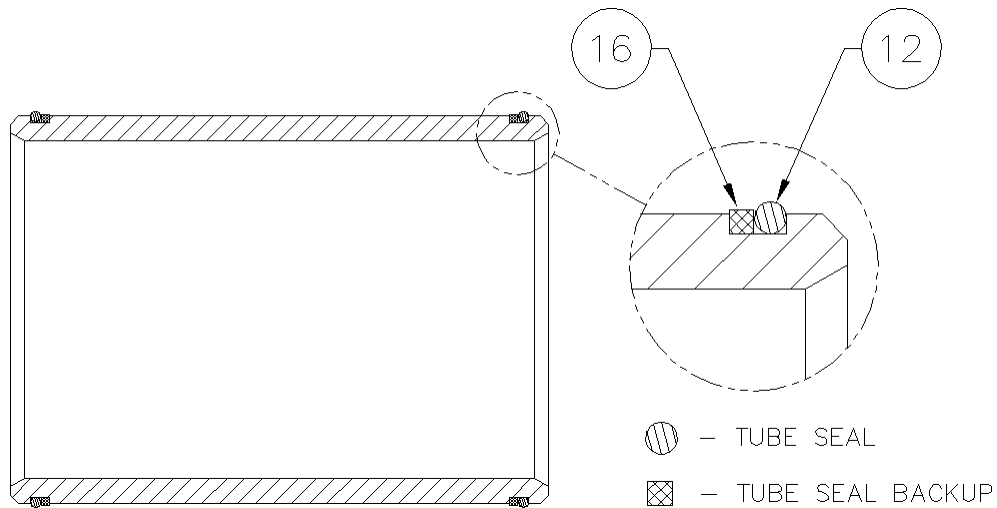
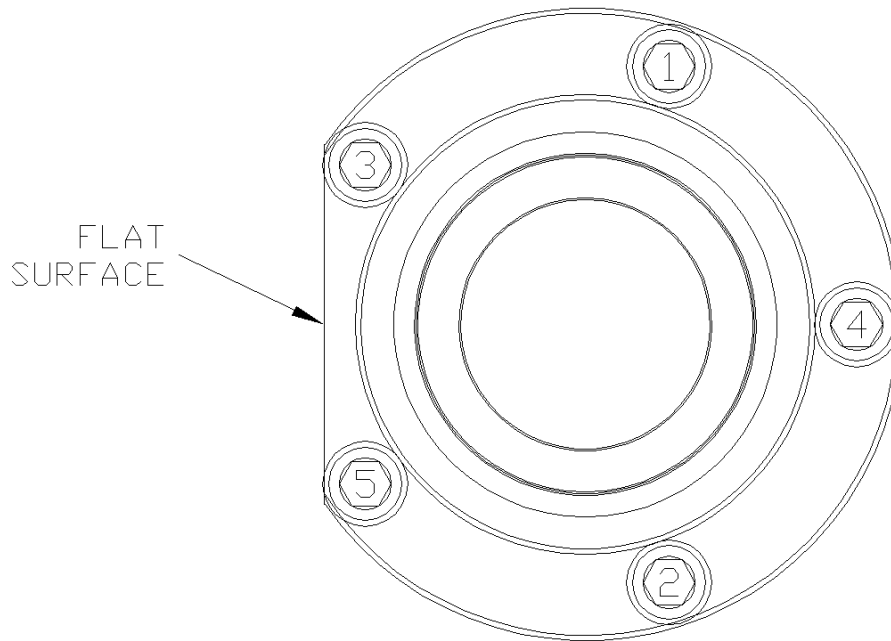
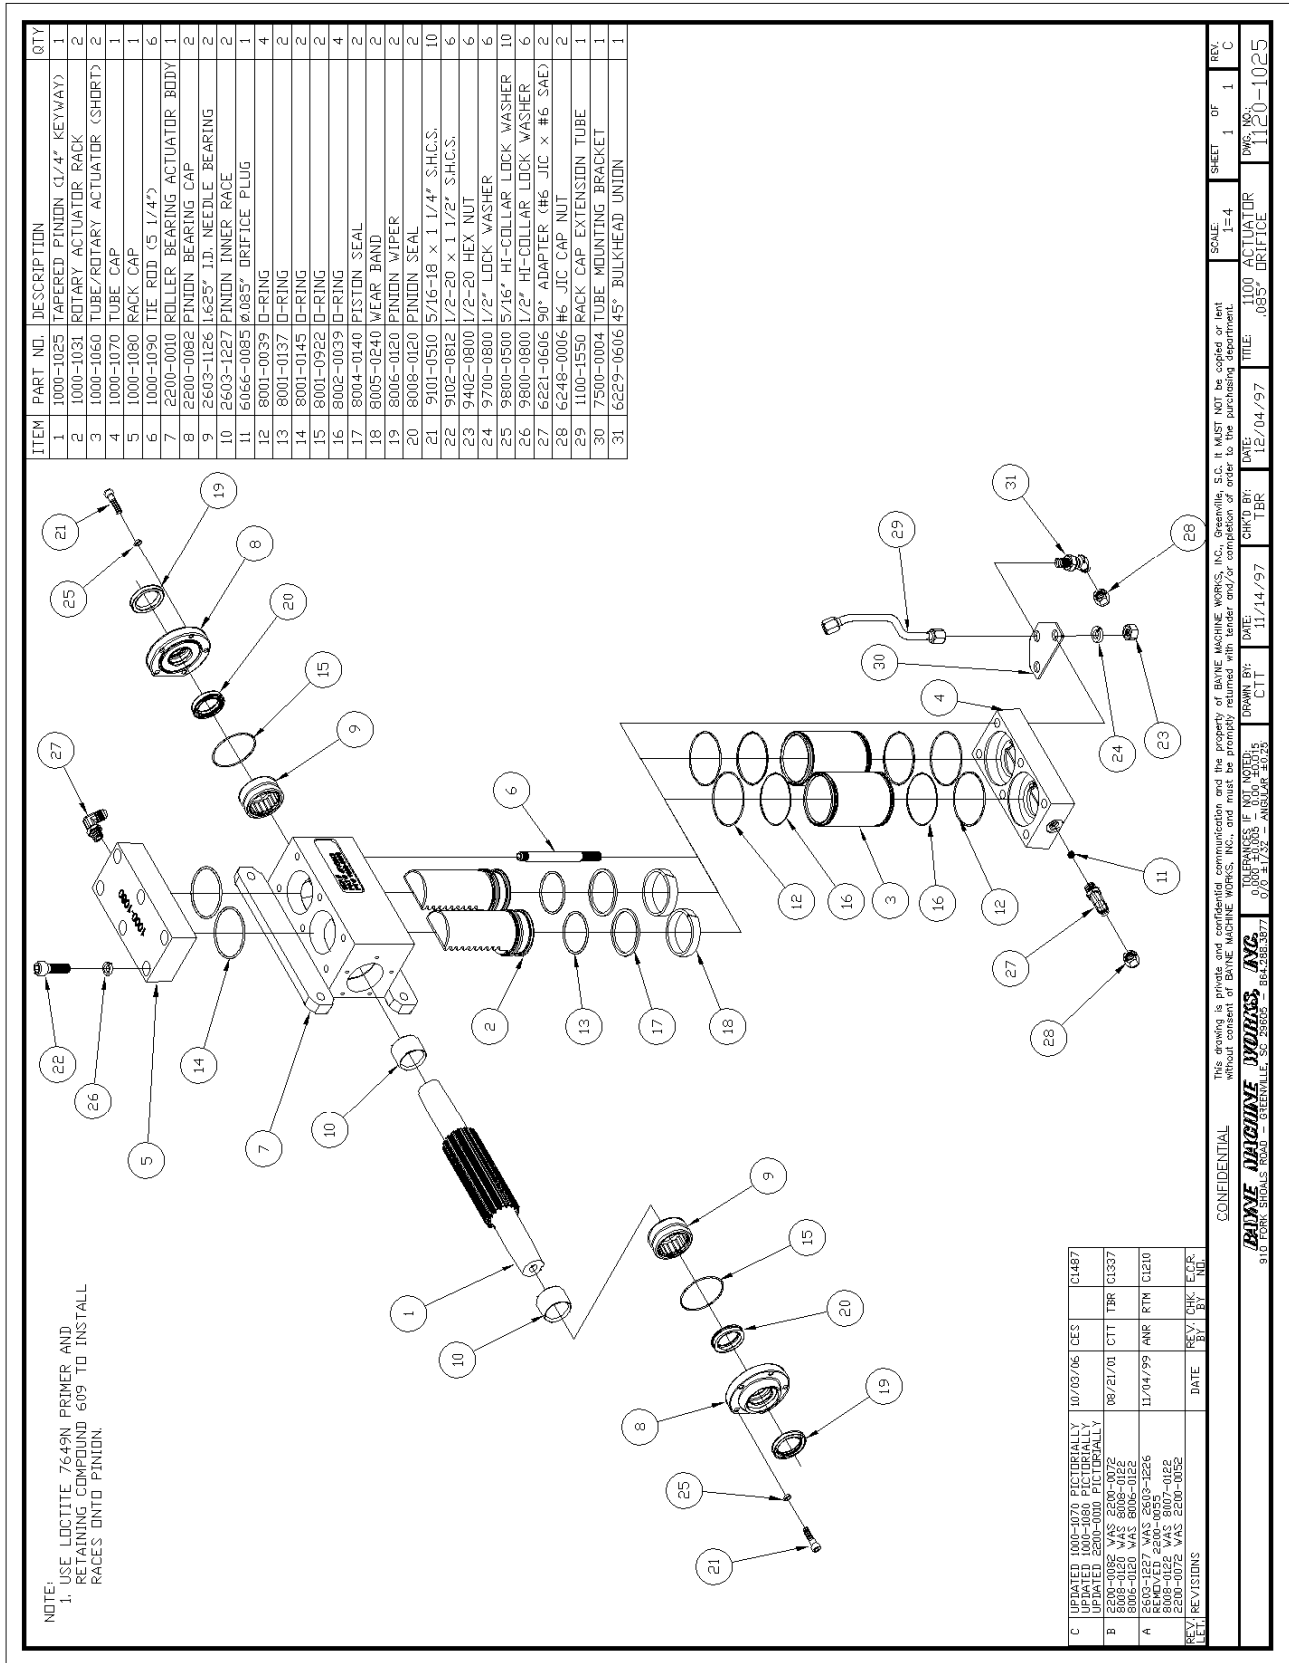

figure A-2
figure A-12
figure A-13
Before starting the assembly of the Rotary Actuator, refer to the exploded parts drawing and parts list (fig. A-13 found at the end of these instructions) to familiarize yourself with the individual components. Prepare a clean surface, in an area free of blowing dust and contaminants in which to assemble the Rotary Actuator. Be sure that all parts are thoroughly clean and dry before starting assembly.
2. Install the tube seal (12) (fig. A-2) and “square” tube seal backup (16) on each end of the actuator tubes (3) (fig. A-13). Be sure that the “square” tube seal backup ring is toward the inside of the tubes at both ends as shown. Press all rings firmly into the grooves. Repeat this procedure for the other tube.
- Coat the head portion of the racks (2) (fig. A-13) with STP Oil Treatment. Install the racks, head portion up with the teeth facing the flanges of the actuator body, into the dual set of bores in the body. Simultaneously slide the racks into the bores so that the racks mesh with the pinion in the same position. Rotate the pinion shaft to engage the racks into the pinion.
7. Coat one end of the actuator tubes (3) (fig. A-13) around the seal area with STP Oil Treatment as shown in figure A-7. Using a rubber mallet, drive the coated end of the tube onto the exposed rack until the tube end seats in the actuator body, making sure that the seals remain in place as the tube enters the counter-bore. Repeat this procedure for the other side.
8. Install the six tie rod studs (6) (fig. A-13) by screwing the short threaded end into the actuator body. Hand tighten only at this time (the torque needed will be applied later in the procedure).
9. Place the tube cap (4) (fig. A-13) on the table. Coat the sides of the two bores in the tube cap with STP Oil Treatment. Install the cap over the tubes and rod studs with the oil port positioned to the left as shown in figure A-13. Using a rubber mallet, tap the tube cap over the tubes until the tubes seat in the cap, making sure that the seals remain in place.
10. Place the tube mounting bracket (30) (fig. A-13) over the two end rod studs opposite the oil port in the tube cap as shown in figure A-13.
11. Install the hex nuts (23) (fig. A-13) and lock washers (24) on the tie rod studs. Torque the nuts to 50 ft-lb. in the sequence shown in figure A-8.
12. Place the rack cap (5) (fig. A-13) bore side up on the table and coat the edge of each bore with STP Oil Treatment. Install the rack cap seals (4) (fig. A-9) in the rack cap.
13. Reposition the actuator on the table mounting flanges down, and the lower tubes facing away from the assembler. Rotate the pinion shaft to allow 1” of the rack to protrude from the top of the actuator body. Install the rack cap with the oil port positioned to the left hand side of the actuator opposite the bottom oil port located in the tube cap as shown in figure A-13. Attach the rack cap to the actuator body using the socket head bolts (22) (fig. A-13) and lock washers (26). Torque the bolts to 90 ft-lb. in the sequence shown in figure A-10.
15. Re-center the actuator pinion in the actuator body by tapping on one end of the shaft with a rubber mallet. Install the roller bearing (9) (fig. A-13), over the pinion shaft and inner race, and into the actuator body. Repeat this procedure for the other bearing.
18. Wrap masking tape or electrical tape around the pinion to cover the edges at the keyway. Slide the bearing cap assembly over the pinion shaft with the bearing cap seal facing toward the actuator body and the flat surface of the flange shown in figure A-12 facing toward the actuator mounting flanges. Press against the bearing cap until the shoulder seats against the actuator body, making sure that the seals remain in place. Install the bearing cap bolts (21) (fig. A-13) and lock washers (25). Hand tighten only at this time. Repeat this procedure for other bearing cap.
19. After both bearing caps have been installed, torque all bearing cap bolts to 30 ft-lb. in the sequence shown in figure A-12.
20. Install the 90° fitting (27) (fig. A-13) into the oil port on the side of the rack cap (5). Hand tighten only at this time.
21. Install the 45° bulk-head fitting (31) (fig. A-13) up through the hole in the tube mounting bracket (30) bolted to the tube cap as shown in figure A-13. The 45° end must be pointing down away from the rack cap (5) and back toward the mounting flanges on the actuator body. Hand tighten only at this time.
22. Install the rack cap extension tube assembly (29) (fig. A-13) between the 90° fitting in the rack cap and the 45° fitting in the tube mounting bracket as shown in figure A-13. Tighten all connections.
23. Install the orifice plug (11) (fig. A-13) into the oil port on the side of the tube cap (4), and install the 90° fitting (27) into the oil port over the orifice plug as shown in figure A-13. Turn the fitting so that it points down away from the rack cap (5) and back toward the mounting flanges on the actuator body and tighten.
24. Install the cap nuts (28) (fig. A-13) onto the open fittings to prevent contamination of the unit until the hoses are installed.